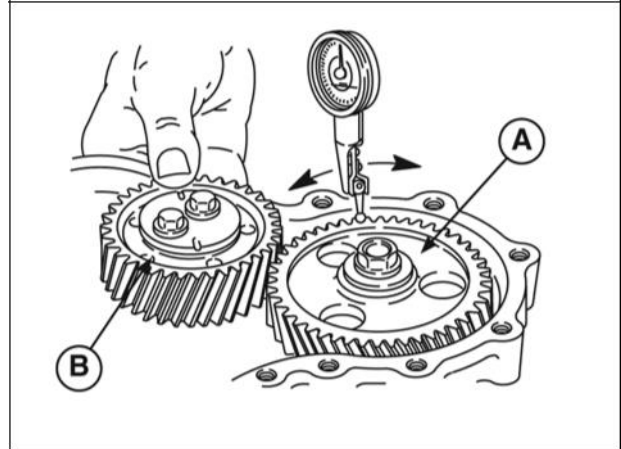

Figure 8
6. Hold idler gear and check gear backlash between camshaft timing gear (A, Figure 8) and idler gear (B) using a dial indicator.